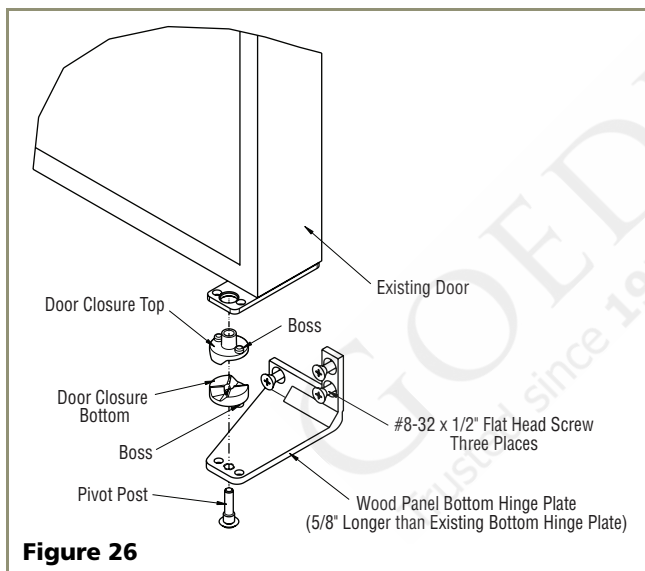

Figure 26
4. Replace the door closure assembly onto the bottom pivot post (see **Figure 26**). Be sure that bosses on closers align with holes in hinge and hinge plate.